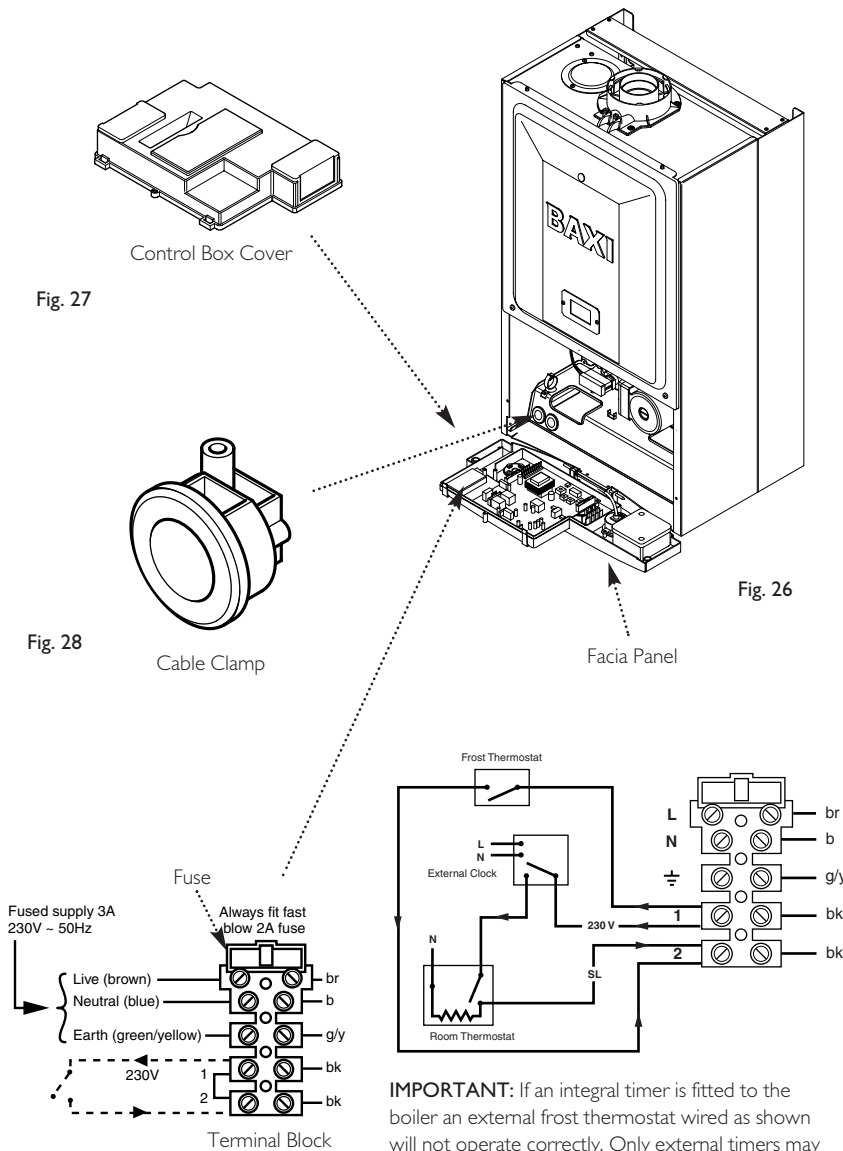

Fig. 29
7. To connect external control(s) remove the link between terminals 1 & 2. The 230V supply at terminal 1 must be connected to the external control. The switched output from the external control must be connected to terminal 2. (Fig. 29).
NOTE: If the room thermostat being used incorporates an anticipator it MUST be wired as shown in Fig. 29